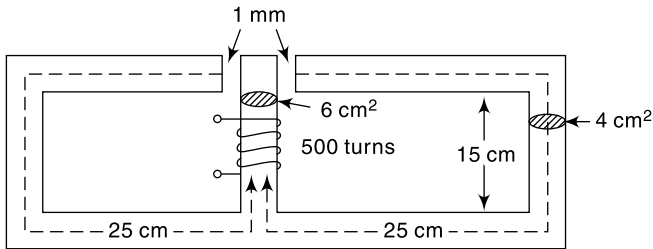

Fig. 3.27 Magnetic circuit of Ex. 3.42
3.42 A magnetic circuit shown in Fig. 3.27 is constructed of wrought iron: